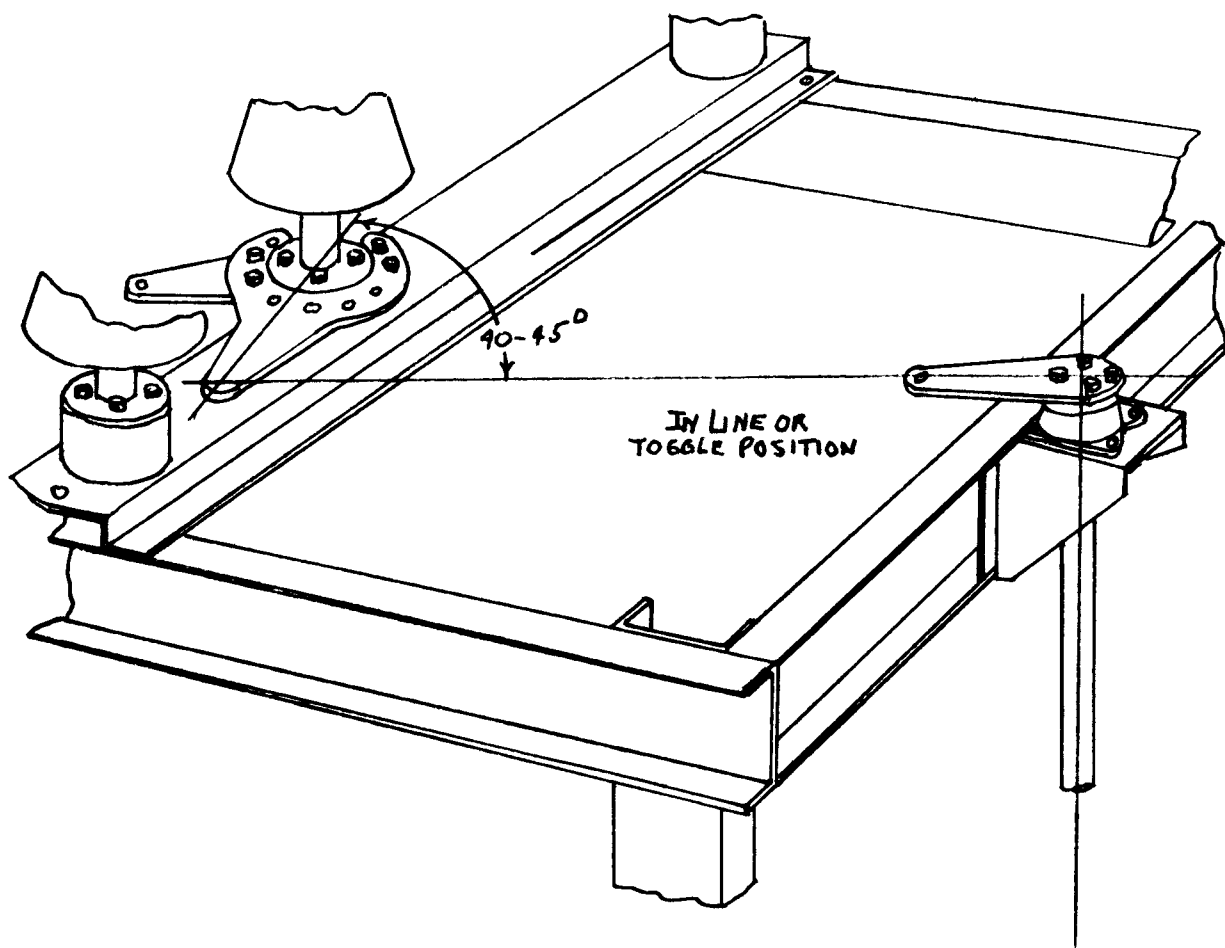

FIG.2
- (b) Adjust the rod ends on the outboard connecting pipe so that the pipe will fit between the driven pole unit lever and the outboard bearing lever. Tighten only the clamping bolts on the rod ends at this time. Do not tighten the set screws. When making this connection, the driven pole unit blade must be completely closed, and the outboard bearing lever must be in toggle as shown in Figure 2.